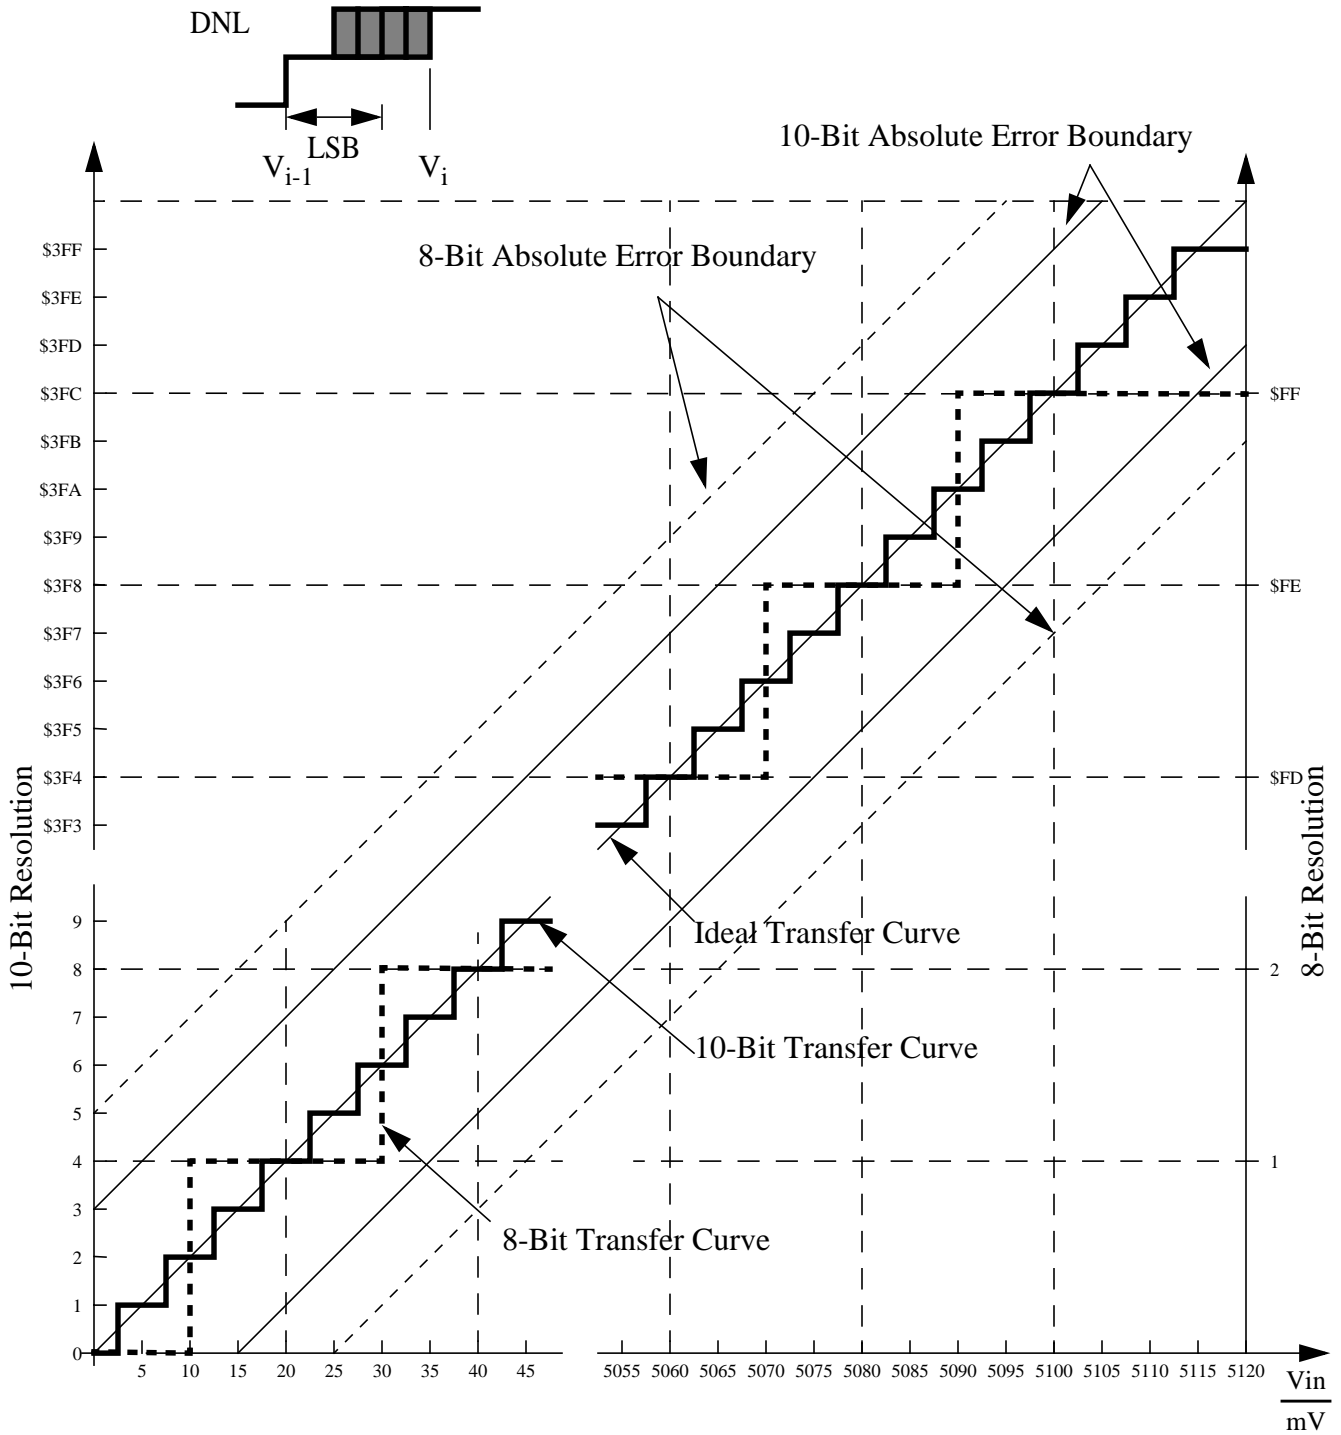

Figure A-1 ATD Accuracy Definitions
For the following definitions see also **Figure A-1**.
**NOTE:** Figure A-1 shows only definitions, for specification values refer to Table A-10.